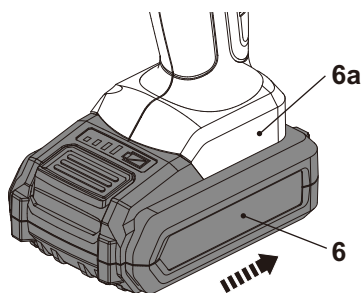

Fig. 1
- > Align the battery pack (6) with the sliding slots of the battery docking port (6a) and slide the battery pack in to attach it. Ensure it clicks in place (Fig. 1).